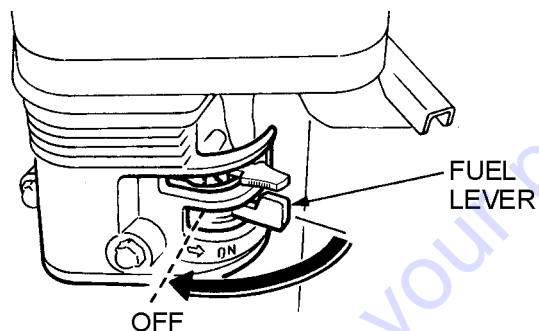

Figure 48. Fuel Valve Lever (OFF)
3. Close the fuel shut-off valve (Figure 48) by moving the fuel valve lever to the **OFF** position.